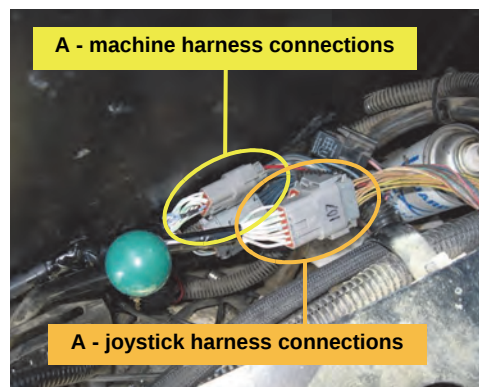

Figure 2b: Interface cable installed
- b. Install interface cable **A** between the two separated harnesses (Figure 2b). The relevant branches of cable **A** are labeled 'TO MACHINE HARNESS' and 'TO JOYSTICK HARNESS' and each branch ends in a male and a female connector. These connect with their corresponding female or male connector on their respective separated harnesses.